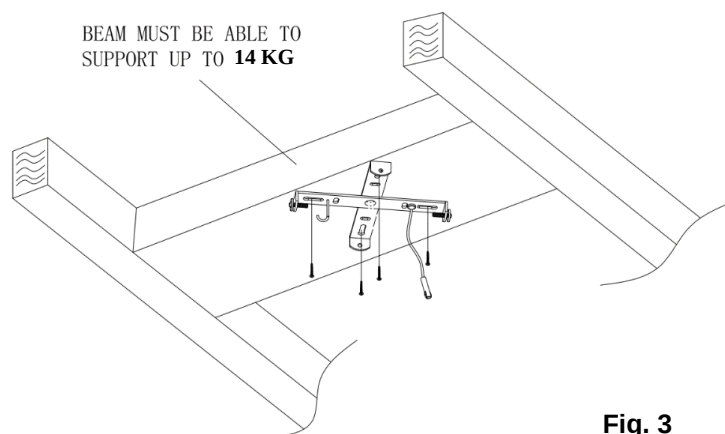

Fig. 3
- Install the hanging bracket to the ceiling joist or structure that is capable of carrying a load of at least 14 kg, with four long screws provided. Ensure at least 30mm of the screw is threaded into the support. (Fig. 3)